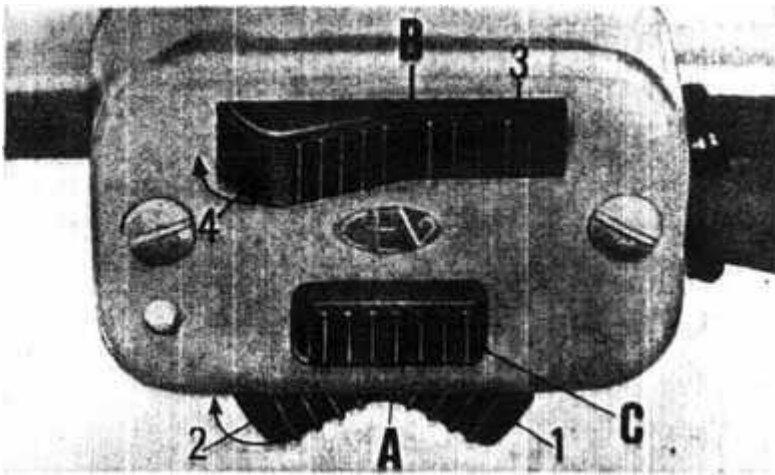

Fig. 9
For night driving levers A and 8 on the left handlebar must be switched on (Fig. 9).
**Dimmer switch and horn button** (Fig. 9) [\[return to index\]](#)